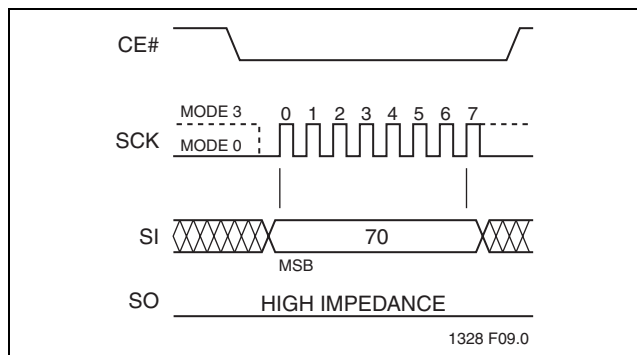

FIGURE 9: Enable SO as Hardware RY/BY# during AAI Programming
The Hardware End-of-Write detection method eliminates the overhead of polling the Busy bit in the Software Status Register during an AAI Word program operation. The 8-bit command, 70H, configures the Serial Output (SO) pin to indicate Flash Busy status during AAI Word programming, as shown in Figure 9. The 8-bit command, 70H, must be executed prior to executing an AAI Word-Program instruction. Once an internal programming operation begins, asserting CE# will immediately drive the status of the internal flash status on the SO pin. A '0' indicates the device is busy and a '1' indicates the device is ready for the next instruction. De-asserting CE# will return the SO pin to tri-state.